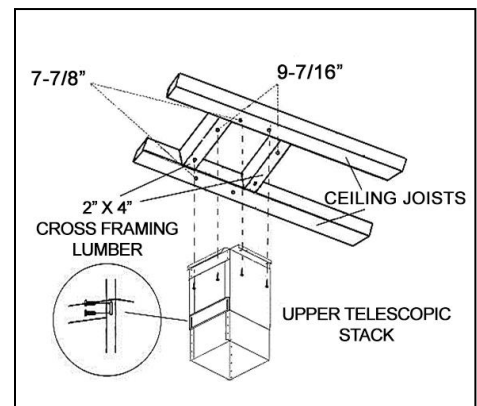

Figure 2
- Cut and remove the ceiling drywall. Install a 2" x 4" cross lumber frame (not provided) between ceiling joists as shown in Figure 2.